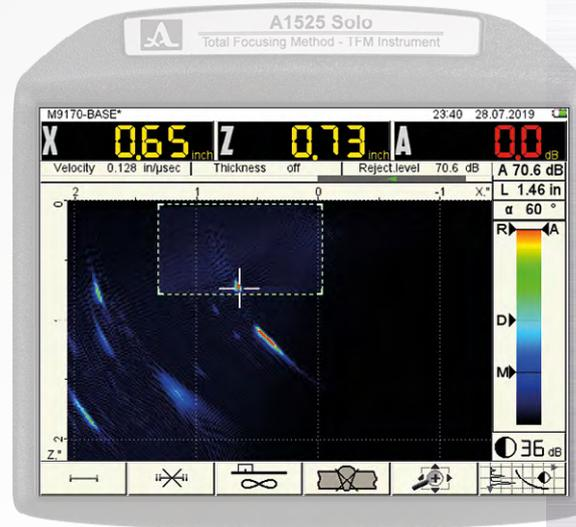

FIGURE 55
5) The large A in the measurement bar will change to 0.0 dB, and the small A underneath it will change to display the reference level in dB (Figure 55).